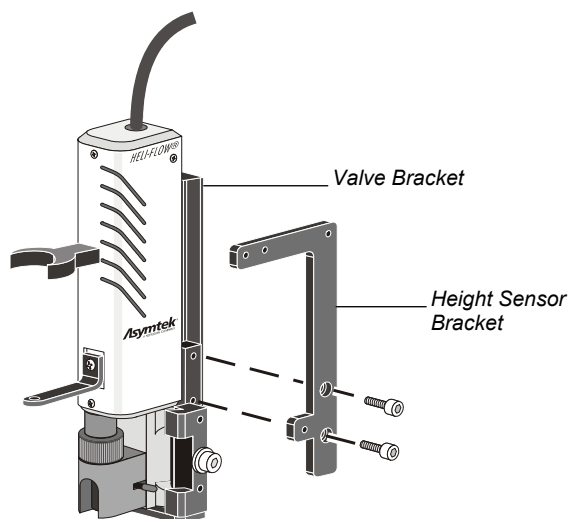

Figure 3-2 Attaching the Height Sensor Bracket
5. Use a 3 mm hex key to attach the height sensor bracket to the valve bracket (Figure 3-2).